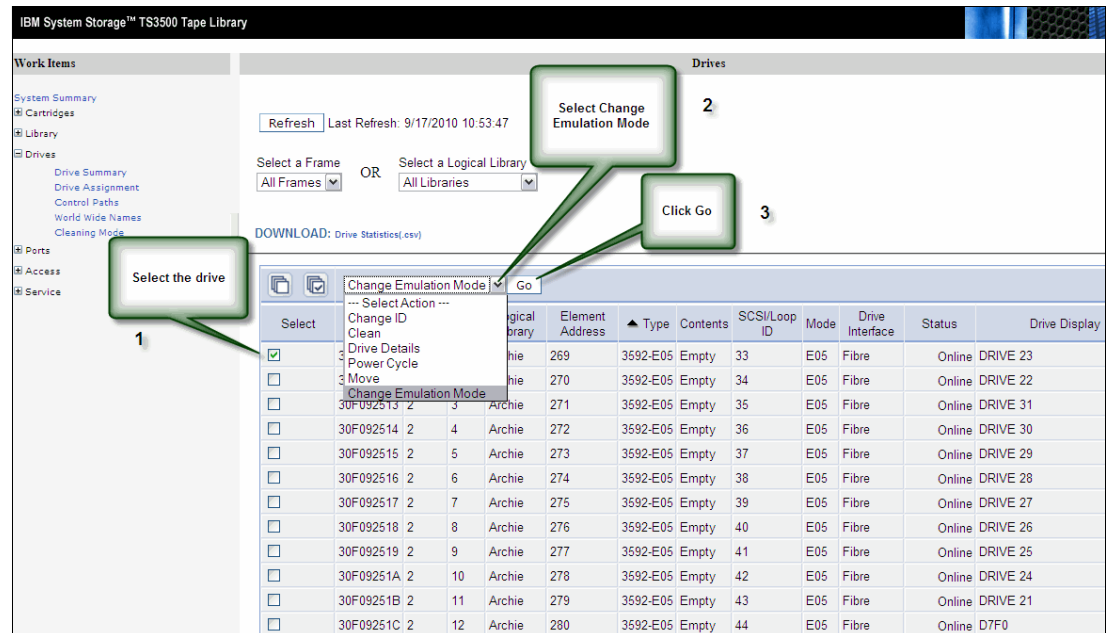

Figure 4-11 Changing drive emulation
2. If necessary change the drive mode to Native mode: In the Drive Summary window, select a drive and select **Change Emulation Mode**, as shown in Figure 4-11